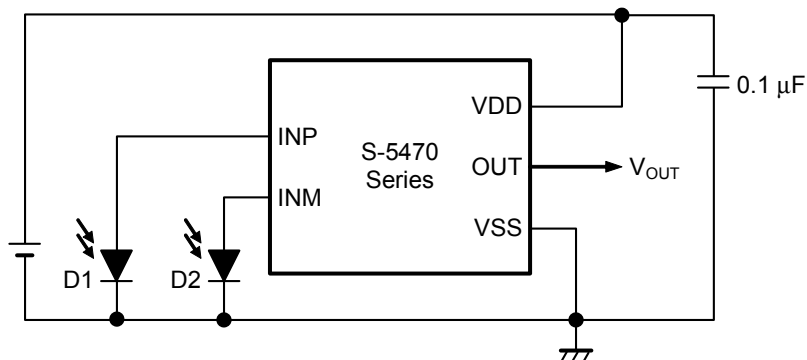
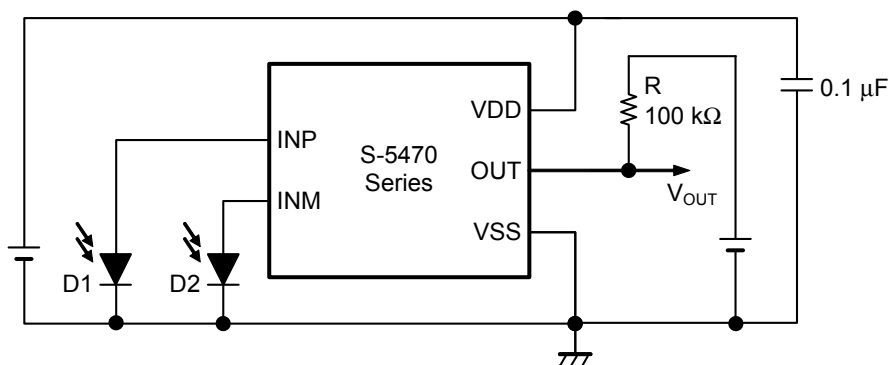

Figure 22 Example Photocurrent Level Difference Detector (CMOS Output Product)
Figure 23 Example Photocurrent Level Difference Detector (Nch Open-drain Output Product)
- 2.** As for the circuit of detecting photocurrent difference, shown in Figure 22 and Figure 23, use the two PDs or the two LEDs that have the same characteristics in generation voltage and in generation current, respectively.
- As for the detecting circuit of the photocurrent difference (Refer to "**Figure 22, Figure 23 Example Photocurrent Level Difference Detector**"), use the S-5470 Series when input current of INP pin is 20 μ A or less and input current of INM pin is 10 μ A or less. In case of input current excess, note that the S-5470 Series might malfunction.